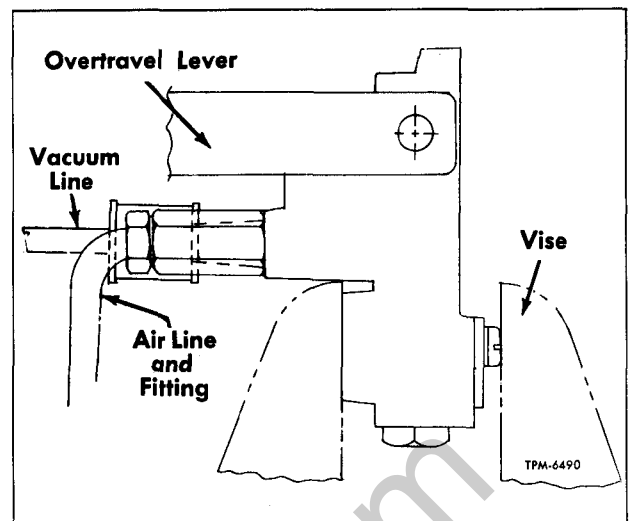

Figure 14—Valve Positioned For Time Delay Check
4. Place valve assembly vertically in holding vise (fig. 14).